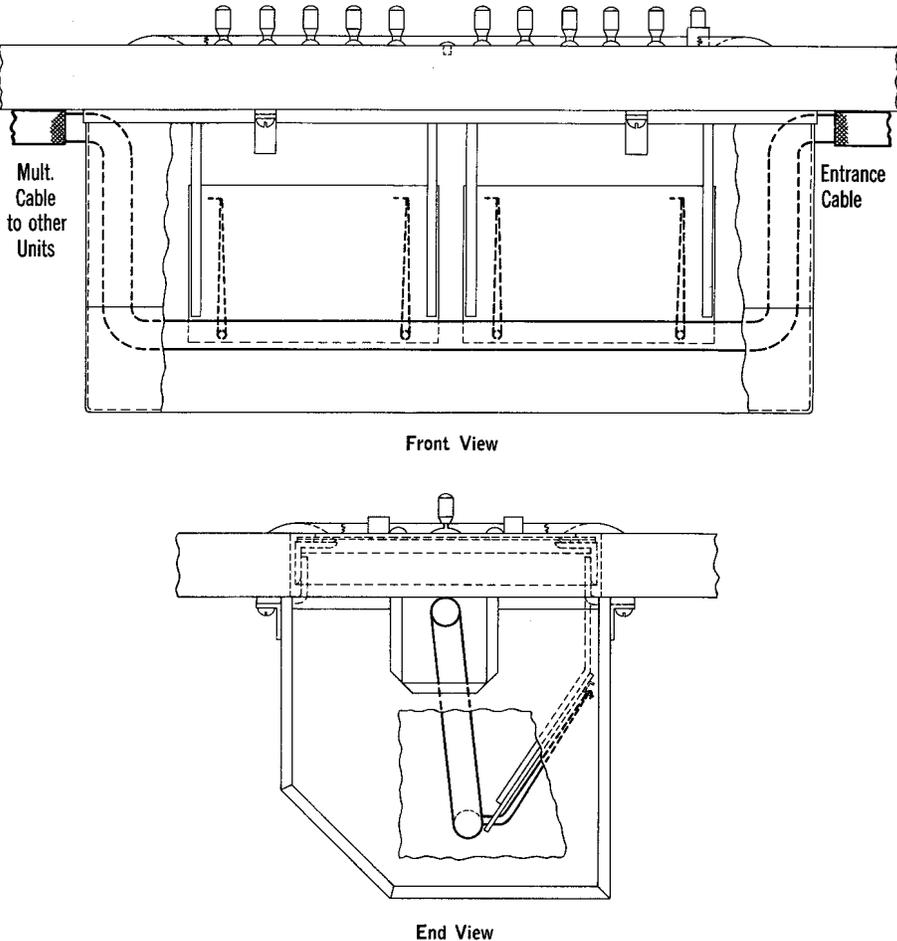

Fig. 15 — Cabling 101B Key Equipment
7. Place cable as shown in Fig. 15.